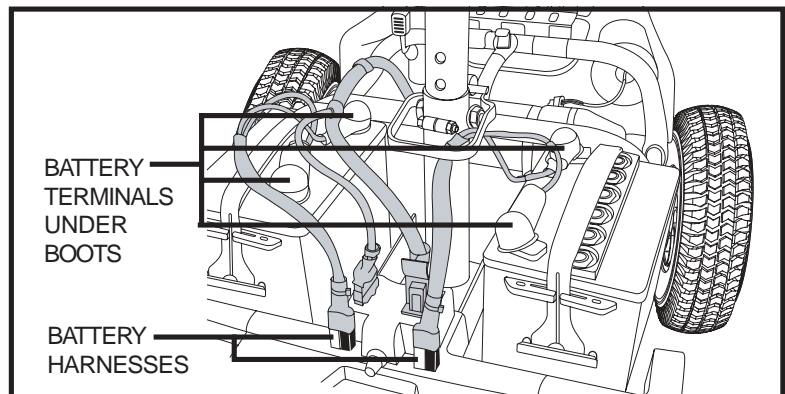

Figure 13. Battery Harnesses and Battery Cables
3. Disconnect the battery harnesses by pulling it straight up. **See figure 13.**